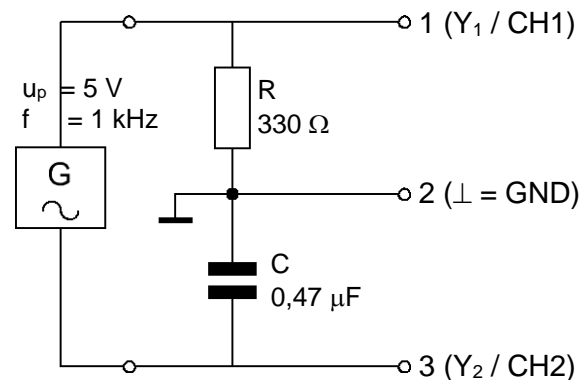

Fig. 10.1.3: Exercise circuit for measuring the capacitive reactance, Q_C
Assemble the circuit in Fig. 10.1.3 on the Electronic Circuits Board.
- Connect the 2-channel oscilloscope as shown in Fig. 10.1.3.
Table 10.1.4: Instantaneous values, exercise circuit in Fig. 10.1.3